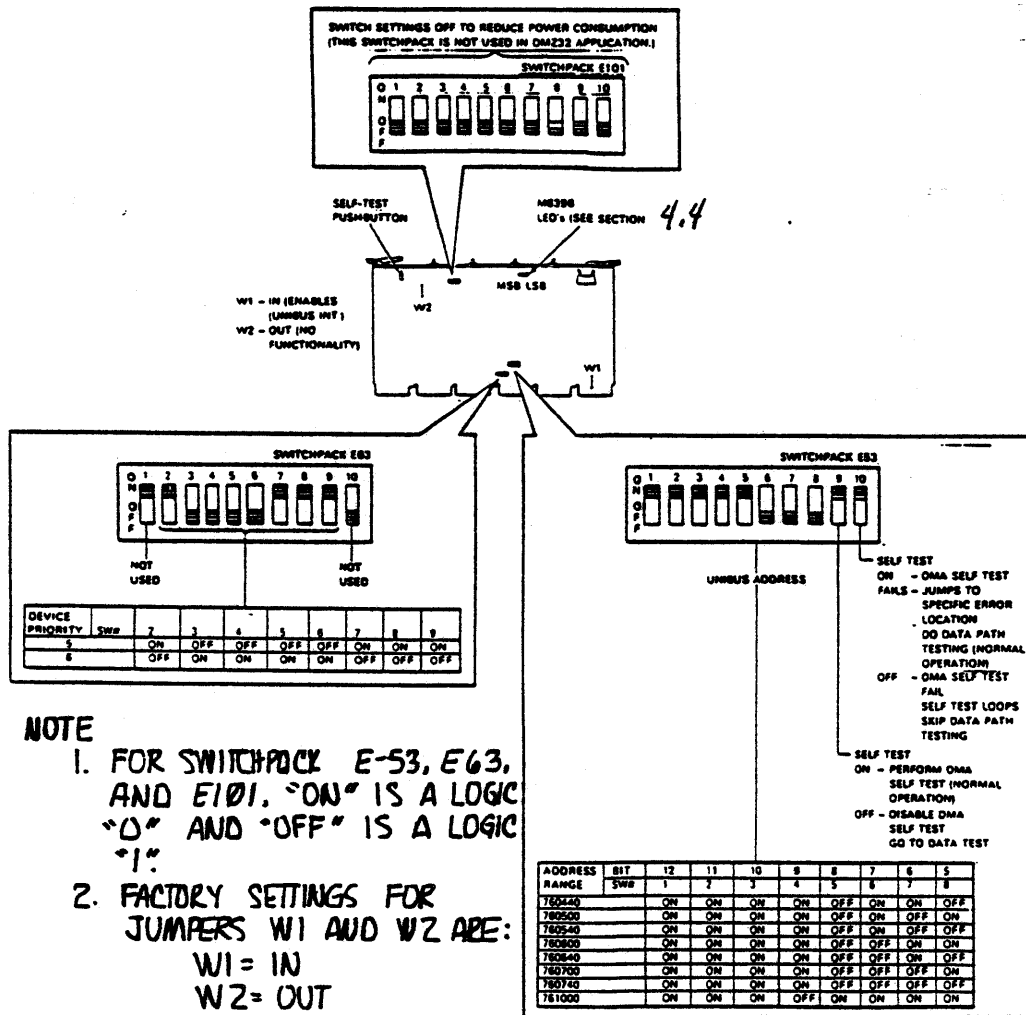

Figure 2-1 DMZ32 UNIBUS Interface Module (M8398)
To install the M8398, perform the following steps in the sequence given, ensuring that no steps are skipped or overlooked. Figure 2-1 shows the location of switch packs.
4. Set switch 10 on switch pack E-53 to the ON positon. (Refer to Figure 2-1 for switch settings.)